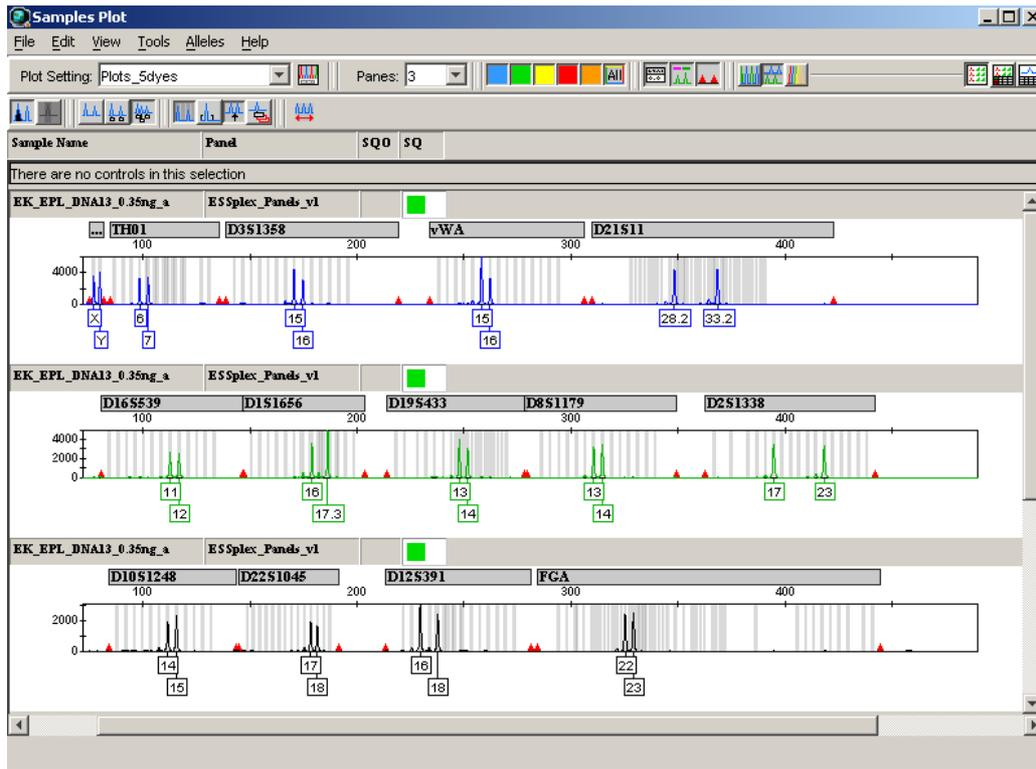

Figure 4. Example sample plot using method HID_3130.
- In plot-window (Sample Plot), the labeled color panels are displayed (Figure 4)